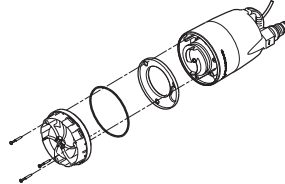

Fig. 10 Removal of bottom part
3. Remove the bottom part, see fig. 10.